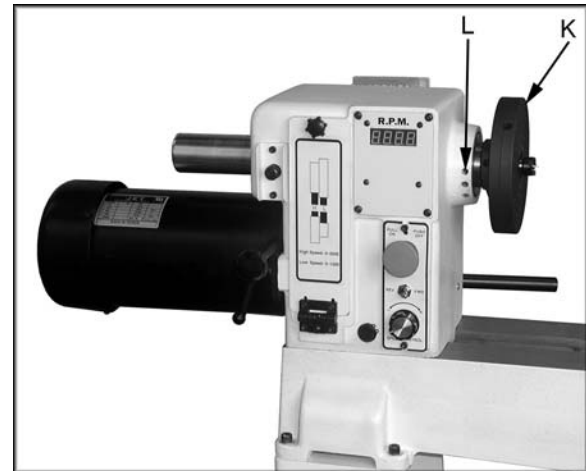

Figure 8
8. **Headstock Faceplate:** (K, Figure 8) Used for turning bowls and plates. There are a number of screw holes for mounting the workpiece. Thread the faceplate onto the spindle in a clockwise direction, and tighten two setscrews. Remove the faceplate by loosening two setscrews. Push in headstock spindle lock and use the provided rod in faceplate holes to unthread the faceplate.
9. **Headstock Indexing Hole:** (L, Figure 8) Thread indexing pin into the indexing hole making sure that it locates in the spindle hole. There are 12 holes in the spindle 30° apart. Three holes in the headstock casting accept the indexing pin. These holes are 20° apart. The combination of holes will allow you to mark your workpiece for evenly spaced features. See chart in sect. 15.0.